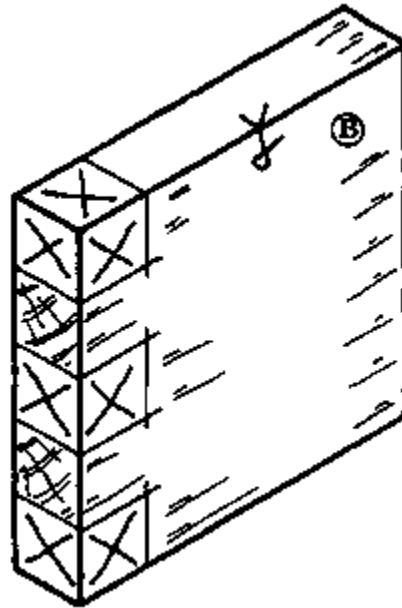

Fig. 4
- Mark out the shape of the tenons on piece B. Keep all tenons the same size (Fig. 4).
- Immediately mark the waste between the tenons with crosses (Fig. 4).